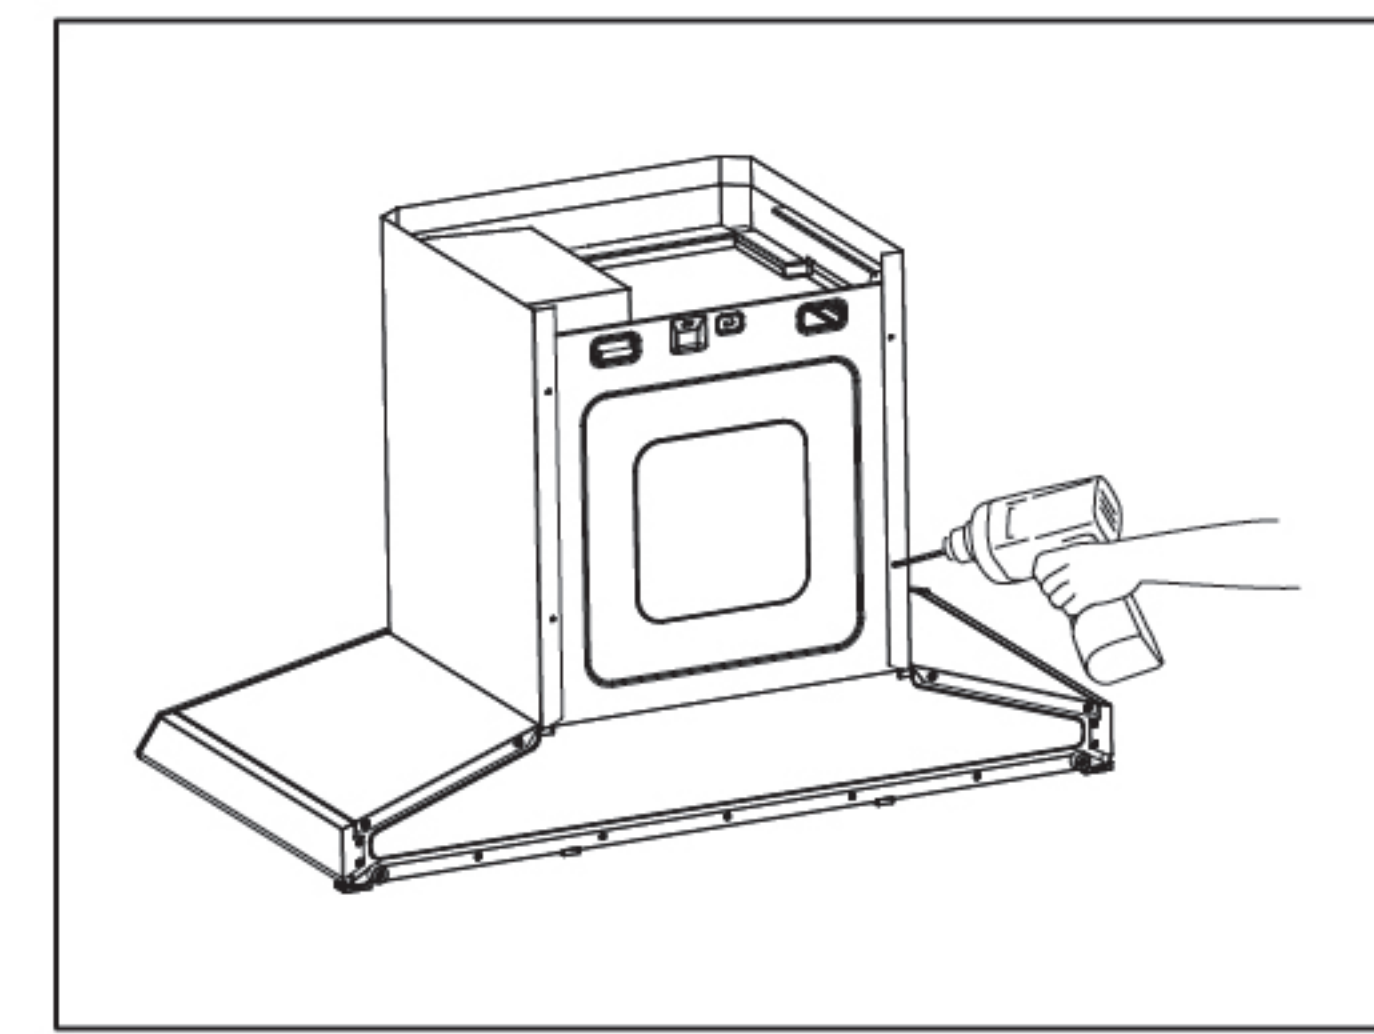

fig 2
- Move the whole machine out of the packing box, unscrew 4 screws used for fixing the fan cover on the back of the range hood, and remove the fan cover and the decorative cover. (fig2)